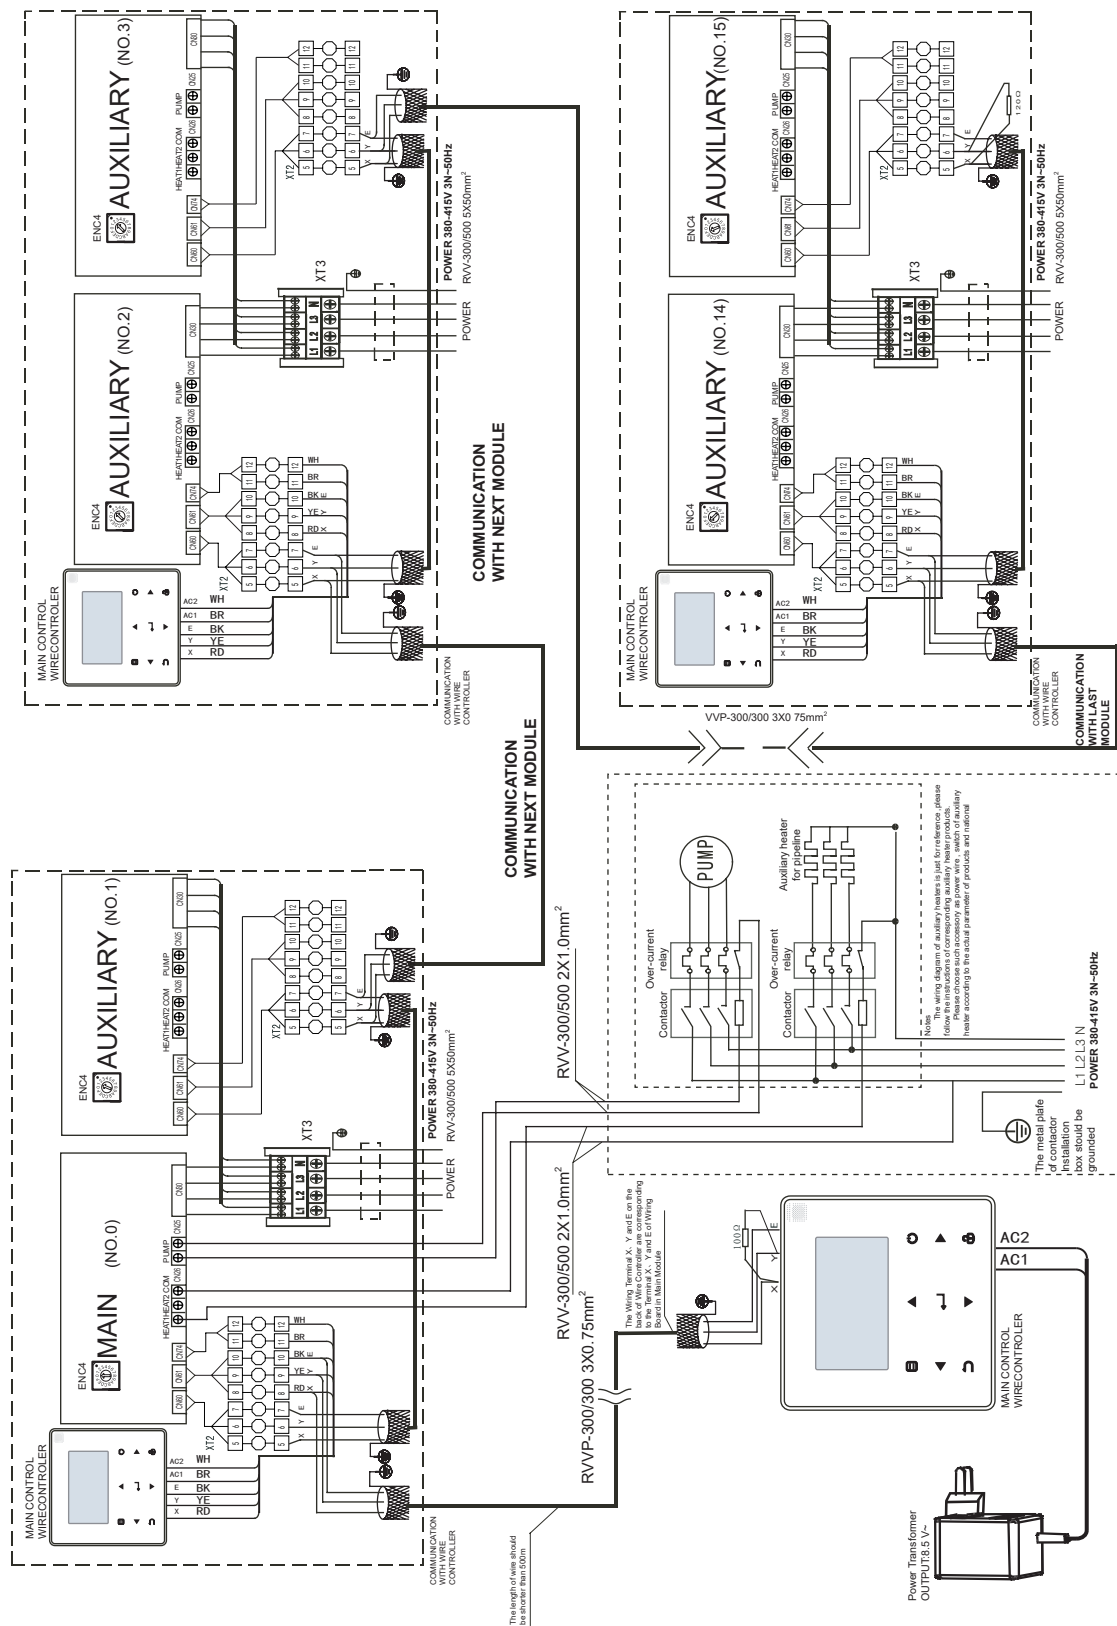

Fig. 8-28 Networking communication schematic of main unit and auxiliary unit for KEM-180 DRS5
- c) The inlet pipe of the evaporator must be provided with a target flow controller, to realize flow-break protection for the unit. Both ends of the target flow controller must be supplied with horizontal straight pipe sections whose diameter is 5 times that of the inlet pipe. The target flow controller must be installed in strict accordance with "Installation & Regulation Guide for Target Flow Controller" (Fig.8-28,8-29). The wires of the target flow controller should be led to the electric cabinet through shielded cable (see Electric Controlling Schematic Diagram for details). The working pressure of the target flow controller is 1.0MPa, and its interface is 1 inch in diameter. After the pipelines are installed, the target flow controller will be set properly according to the rated water flow of the unit.